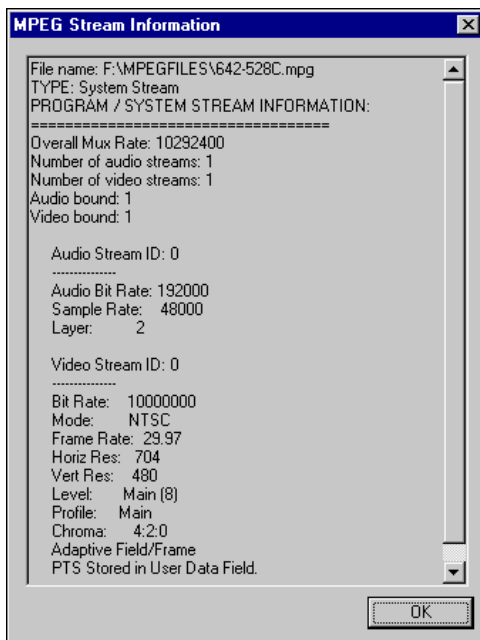

Figure 2-5. MPEG File Properties Window
Properties – Click to access a window containing stream information about the currently-open MPEG file. See Figure 2-5 for a sample properties window.
- Click **Properties** to bring up the MPEG File Properties window, (Figure 2-5), providing stream information and other data on the file that is currently open.
(Figure 2-5) This window displays properties of the MPEG file that is currently selected for viewing. It is accessed from either File Menu > Properties or from the Properties button on the application toolbar.